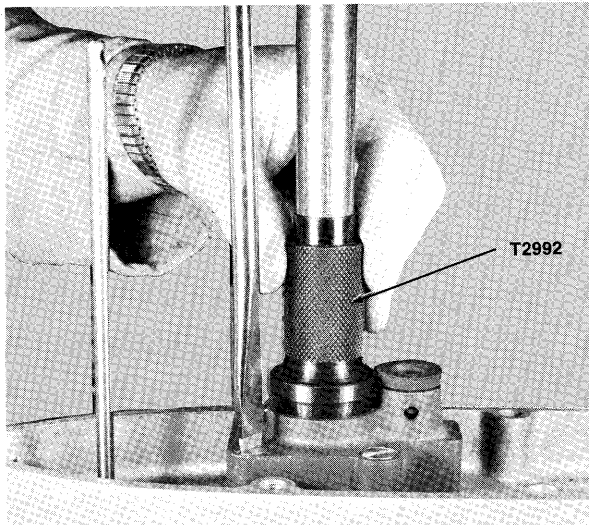

Figure 2—Centering Water Pump Body
- E. Install water pump centering tool (Special Tool T2992) down driveshaft to center pump body in relationship to driveshaft. See figure 2.